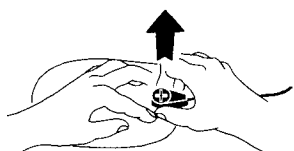

Figure 5-6 Disconnecting Defibrillation Cable from FAST-PATCH Electrodes
- 2 Pinch the snap connector with the fingers of the other hand and pull straight up (see Figure 5-6).